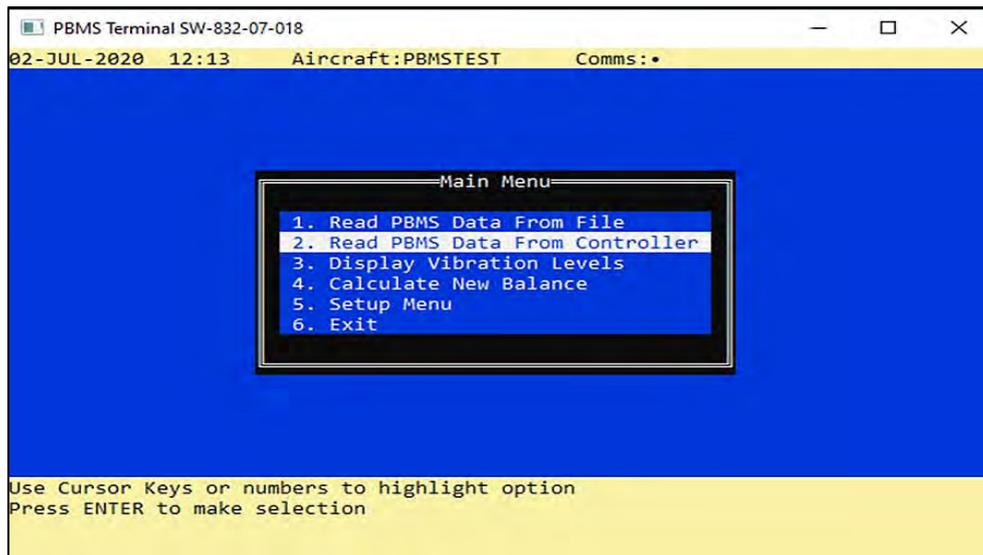

Figure 3-10 Read from the Controller
- (2) Select Read PBMS data from Controller from the Main Menu and Press <Enter> (**Ref Fig 3-10**).